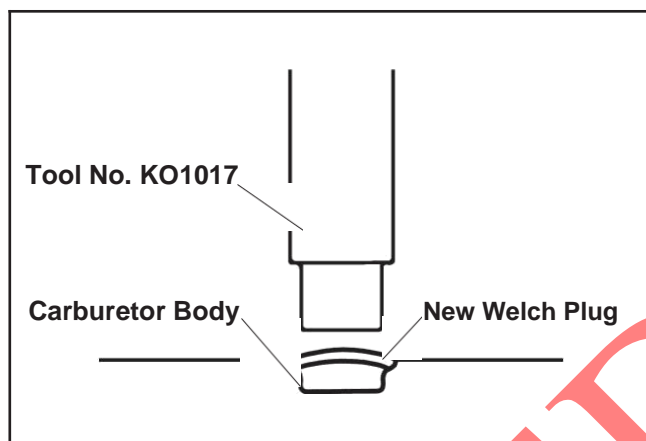

Figure 5-13. Installing Welch Plugs.
3. Use the end of the tool that is about the same size as the plug and **flatten** the plug. Do not force the plug below the surface of the cavity. See Figure 5-13.